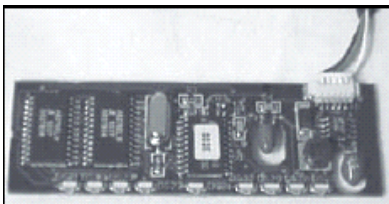

Figure 3
5. Attach the 3-wire connector to the back of the circuit board (Figure 3).